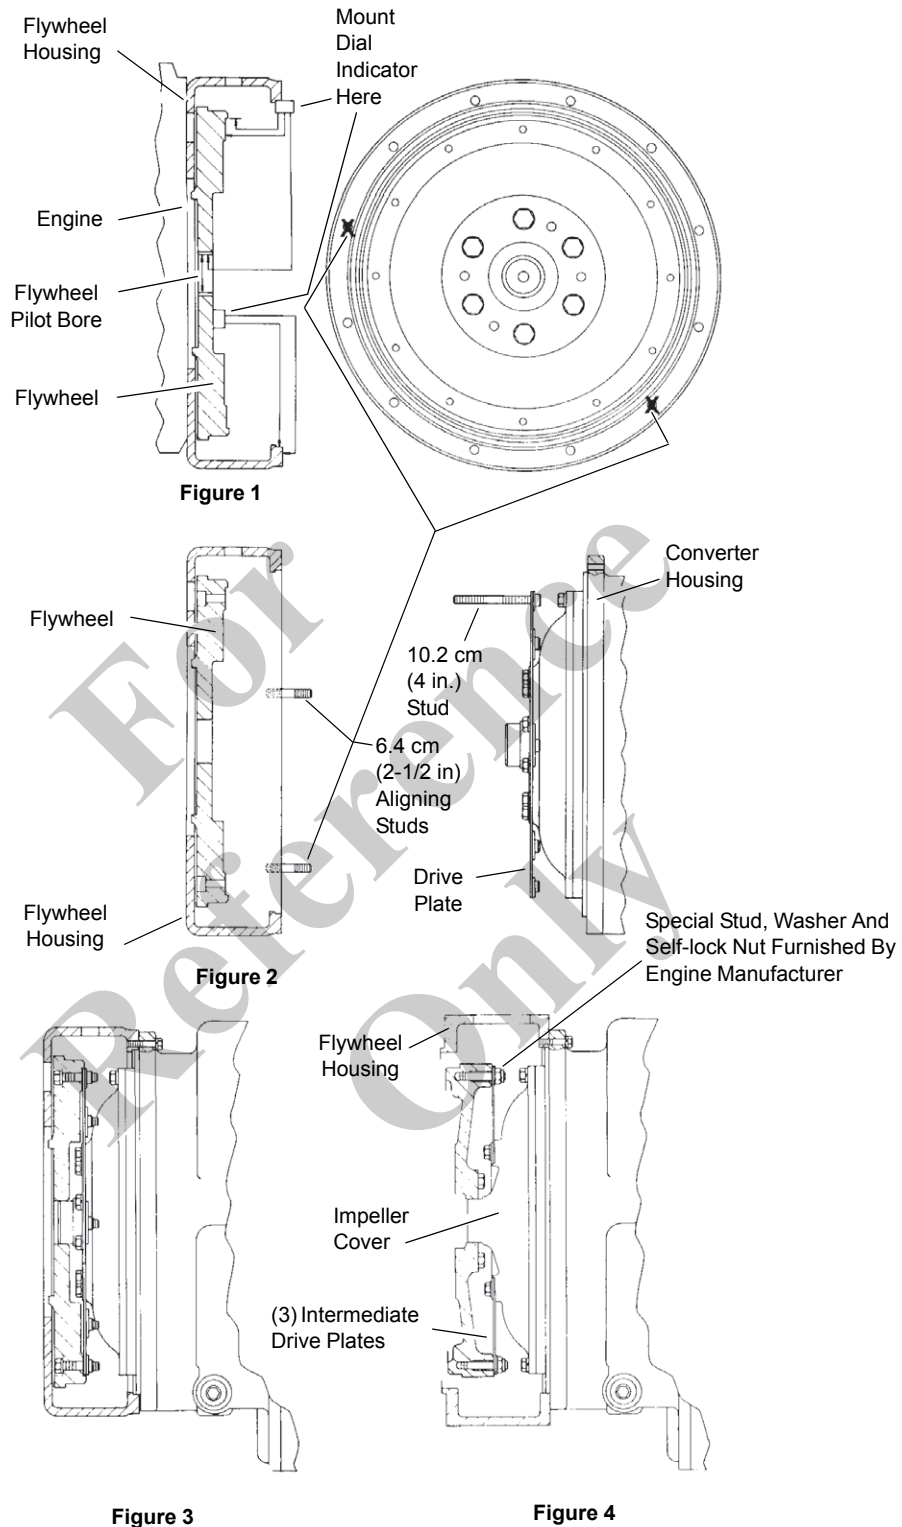

FIGURE 7-12
**NOTE:** Refer to Figure 7-12.